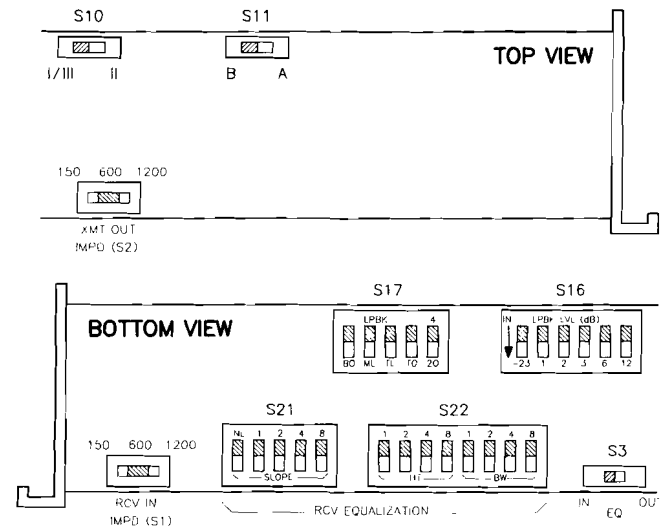

figure 1. Issue 2 6161/X option switch locations
1.03 When optioning the Issue 2 6161/X module, please disregard the terminating-impedance optioning information in paragraph 3.07 and table 6 of the attached practice. Instead, refer to figure 1 of this addendum and set the module's *RCV IN IMPD* and *XMT OUT IMPD* option switches (S1 and S2, respectively) as follows:
1.04 When setting switch options on the Issue 2 6161X module, be certain to set the receive-equalizer bypass switch (*EQ IN/OUT*, S3) as follows (see figure 1 of this addendum for the location of S3):